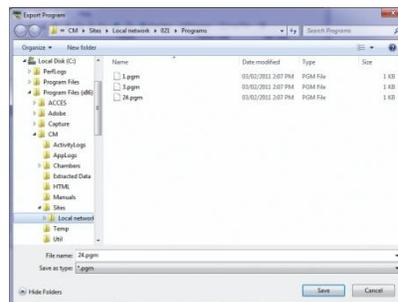

Figure 4-33 Export Program Dialog Box
2. In the **File Name** field, enter a name for the program (Figure 4-33). The program name can be a maximum of up to eight characters